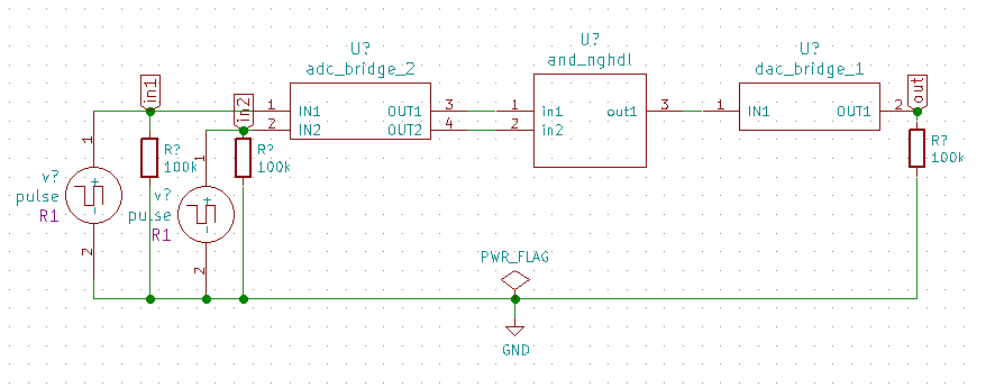

Figure 9.10: Example of an AND gate characteristics circuit
- Now create the schematic as shown in Fig. 9.10, annotate, perform ERC, create the netlist and save the schematic by following the steps given in Chapter 5.